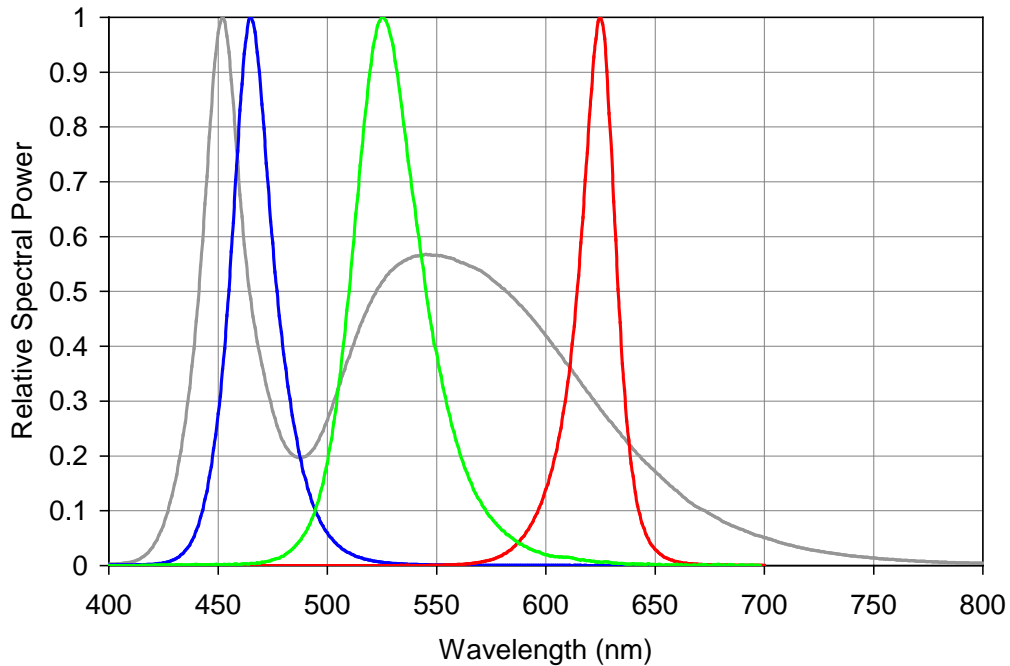

Figure 5: Typical relative spectral power vs. wavelength @ Tc = 25°C.
- Solder conditions per JEDEC 020D. See Reflow Soldering Profile Figure 5.